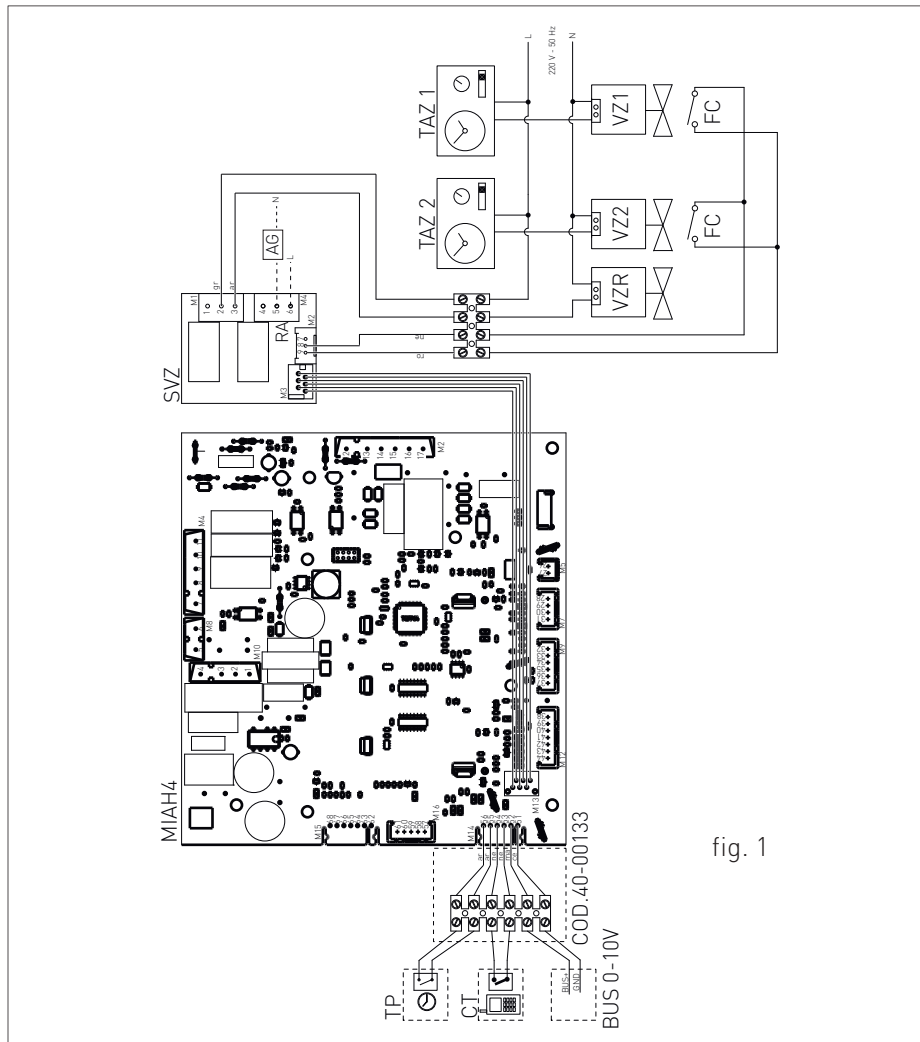

fig. 1
- > after removing the back plate, connect the items below to the P.C.B. (see fig. 1).